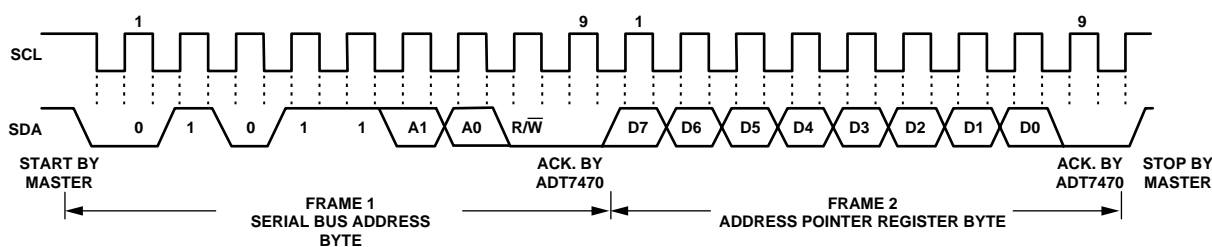

Figure 8. Writing to the Address Pointer Register Only
as before, but only the data byte containing the register address is sent, as data is not to be written to the register. This is shown in Figure 8.
- If the address pointer register is known to be already at the desired address, data can be read from the corresponding data register without first writing to the address pointer register, so Figure 8 can be omitted.